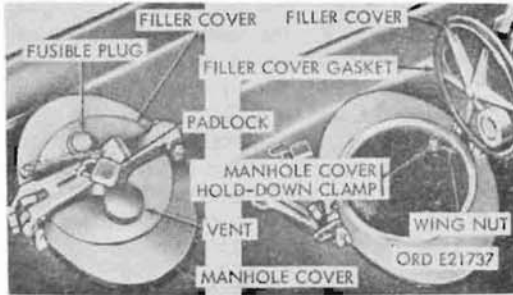

Figure 302. M49 manhole and filler covers - early-production models
a. Removal (Manhole Covers on Early Production M49 Trucks). Open filler cover. Reach in through filler opening and loosen six wing-nuts holding manhole cover hold-down clamps in position on body. Turn clamps to side, and remove manhole and filler covers as a unit (fig. 302).